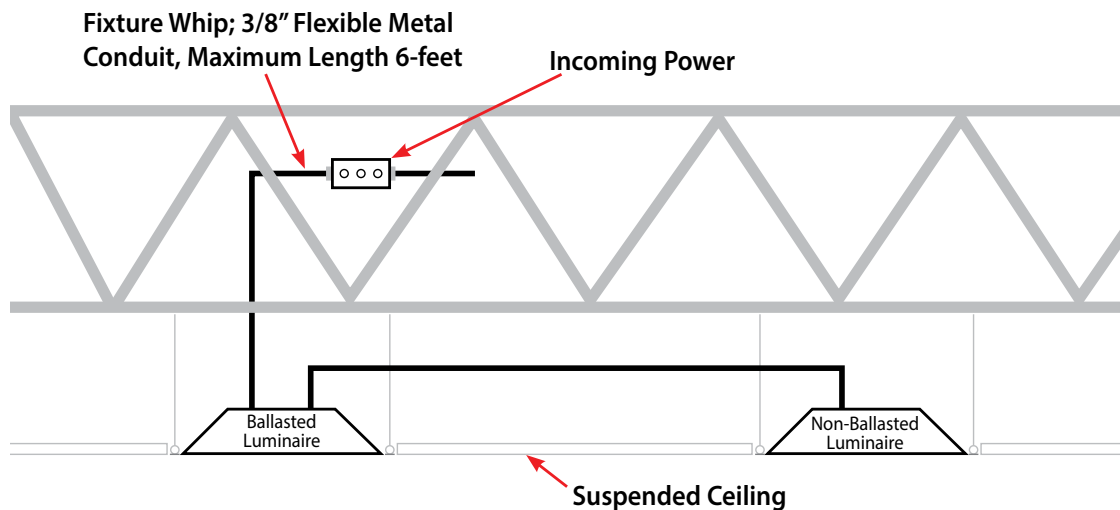

Figure 1: Allowable application for a Flexible Metal Conduit (FMC) Fixture Whip with a maximum 25-foot restriction.
*Wired luminaire sections are paired, with a ballast(s) supplying a lamp or lamps in both. For interconnection between paired units, it shall be permissible to use metric designator 12 (trade size 3/8") flexible metal conduit in lengths not exceeding 7.5 m (25-ft) in conformance with Article 348. Luminaire wire operating at line voltage, supplying only the ballast(s) of one of the paired luminaires, shall be permitted in the same raceway as the lamp supply wires of the paired luminaires. See Figure 1.*